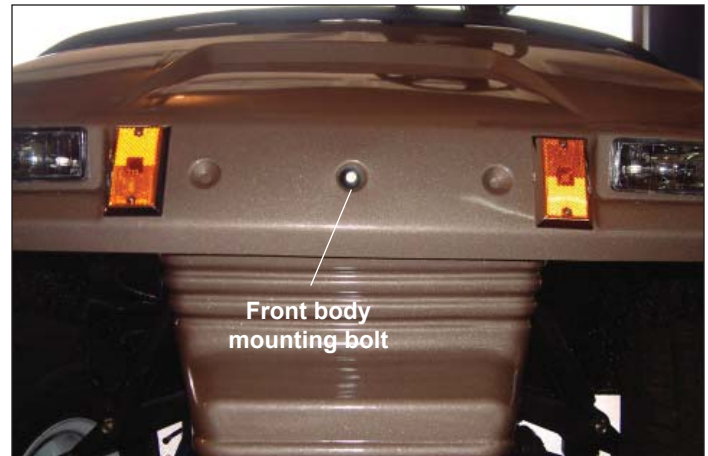

Figure 8-1. Front Body Center Mounting Hardware
2. Remove the center bolt, washer and locknut from the front body (Figure 8-1).
5. Install bolt, washer and lock nut (Figure 8-1). Tighten securely.